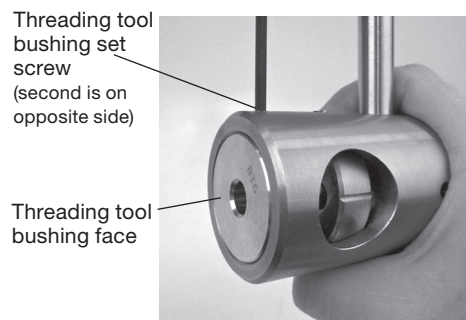

Fig. 16 Threading tool bushing face and set screws
1. Position the appropriate guide bushing at the opening on the housing with the marked side facing out and then slide it in until the face of the bushing is even with the face of the housing. (Fig. 16)
2. Tighten the two 1/4 in. guide bushing set screws using the 1/8 in. hex key. (Fig. 16)